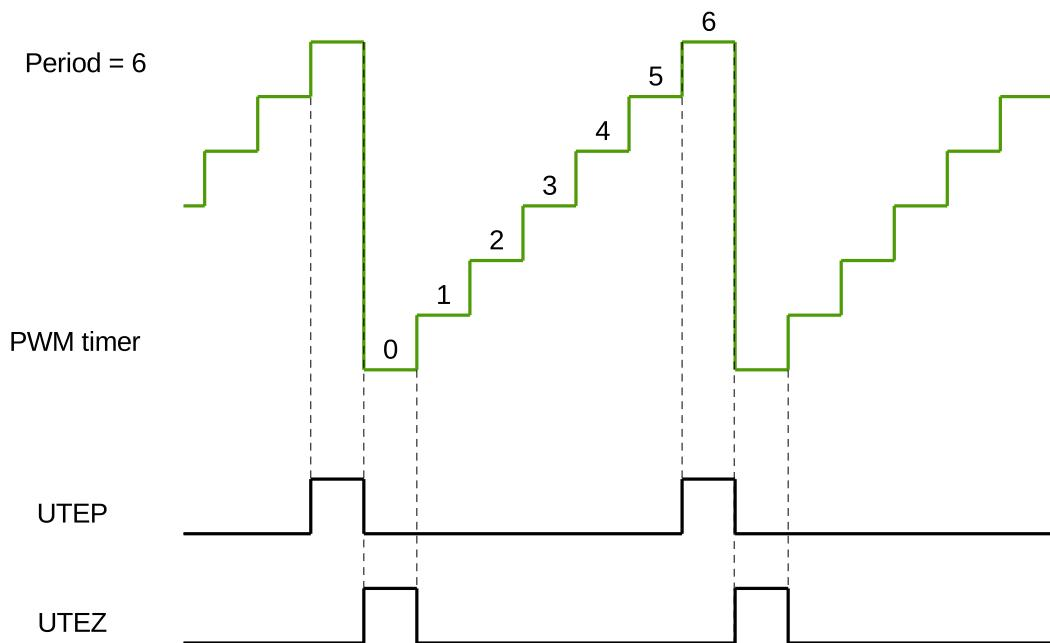

Figure 90: UTEP and UTEZ Generation in Count-Up Mode
Figures 90 to 92 show the timing waveforms of U/DTEP and U/DTEZ.
1. UTEP and UTEZ do not happen simultaneously. When the PWM timer is in count-up mode, UTEP will always happen one cycle earlier than UTEZ, as demonstrated in Figure 90, so their action on PWM signals will not interrupt each other. When the PWM timer is in count-up-down mode, UTEP will not occur.